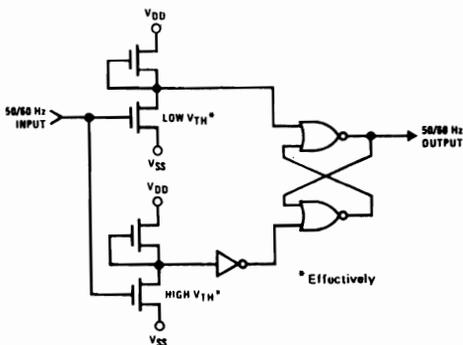
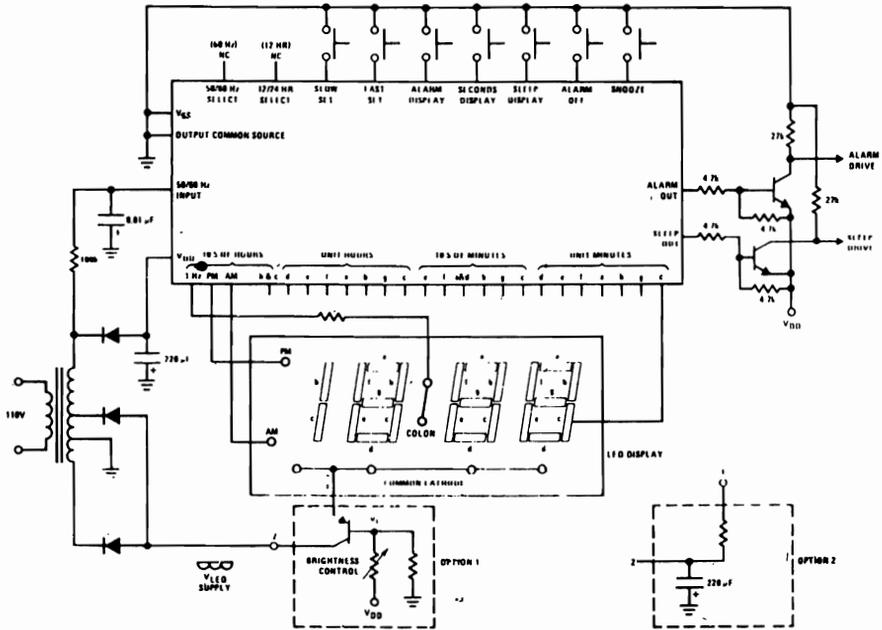

FIGURE 3. 50/60 Hz Input Shaping Circuit
FIGURE 7
50 or 60 Hz Input: A shaping circuit (*Figure 3*) is provided to square the 50 or 60 Hz input. This circuit allows use of a filtered sinewave input. The circuit is a Schmitt trigger that is designed to provide about 6V of hysteresis. A simple RC filter such as shown in *Figure 7* should be used to remove possible line-voltage transients that could either cause the clock to gain time or damage the device. The shaper output drives a counter chain which performs the timekeeping function.
Figure 7 is a schematic diagram of a general purpose alarm clock circuit (12-hour mode) using the MM5387AA or MM5388 and a 3 1/2-digit LED display.
The MM5734 is capable of decoding a keyboard matrix as shown in Figure 2. Three possible models are shown in Figure 3. Figure 2(a) illustrates a keyboard scheme which includes all 8 functions with only 23 keys by using a function key (F).